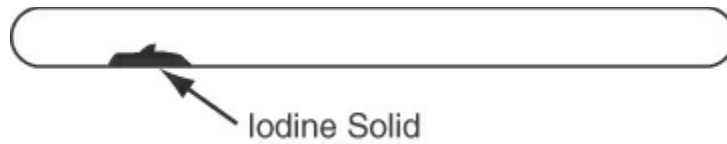

Figure P3.2.13
***3.2.13** A 1.0 g sample of solid iodine is placed in a tube, and the tube is sealed after all of the air is removed (Figure P3.2.13). The tube and the solid iodine together weigh 27.0 g.